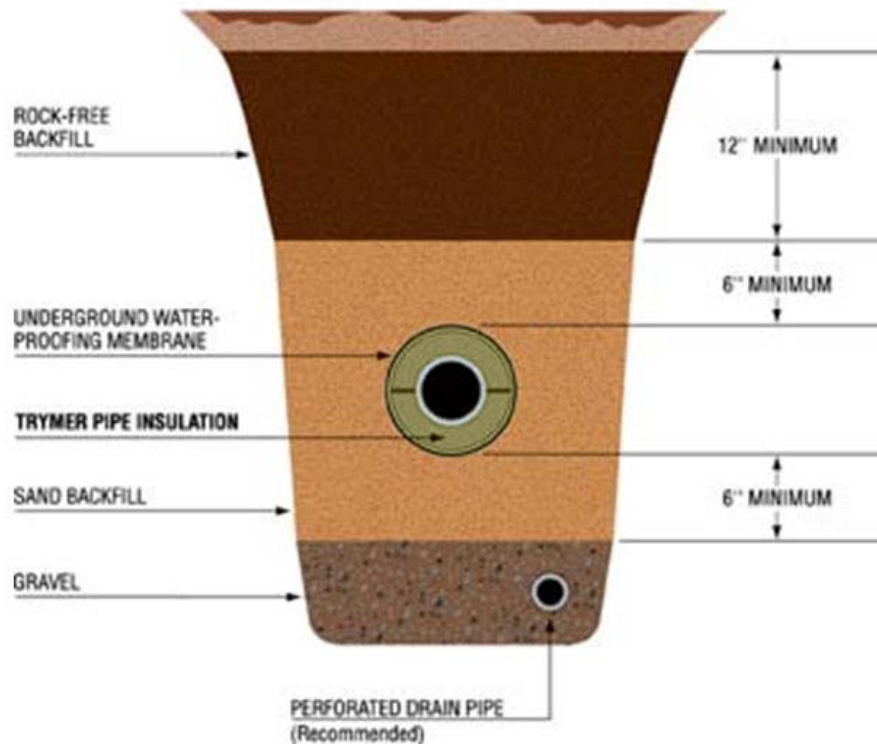

Figure 6
4.4.3 Trench to be constructed per detail in Figure 6 in Appendix B.